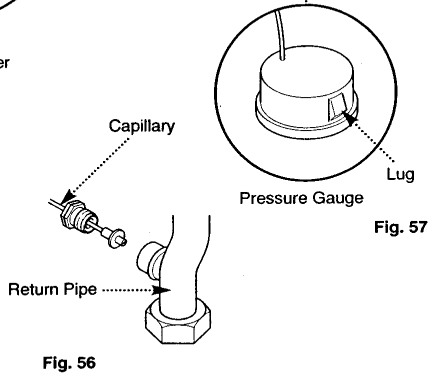

Fig. 56
2. Undo the nut retaining the capillary in the connection at the return pipe (Fig. 56).